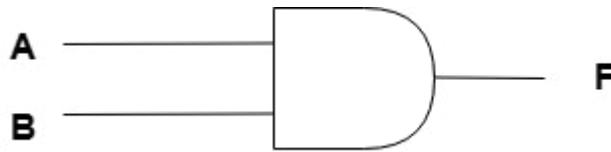

Figure 4.1: Two-input AND Gate
1. **Variables:** Imagine you have a light switch. It can be either ON or OFF. By using a letter, like “A”, to represent the switch. When the switch is ON, then  $A = 1$ . When it is OFF, then  $A = 0$ . The letter you use to represent the state of the switch is known as a “Variable”. These variables in Boolean algebra represent logical values, and are represented by letters like A, B, C. They can only have one value, either True (1) or False (0).
- a. **AND Gate:** This gate only lets the signal through (or outputs 1) when both of its inputs are 1. It is like saying, “If this and that is true, then do this.” This operation is usually represented using a simple dot (.) or simply by placing the variables next to each other. For example, A AND B can be written as  $A \cdot B$  or simply AB. It can also be represented diagrammatically, as shown in **Figure 4.1**.
The AND gate represented in **Figure 4.1** has two inputs (A and B) and one output (F). Below is a simple **truth table** for this two-input AND gate. You can see that from all the possible signal (or input) combinations there is only ONE which has two inputs that are 1.